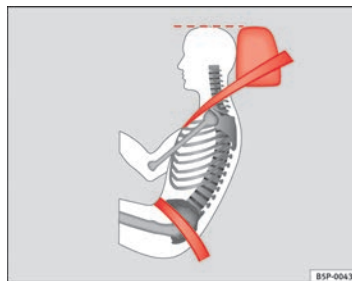

Fig. 14 Correct seat belt and head restraint positions, viewed from side
- The lap part of the seat belt must lie across the pelvis, never across the stomach. The seat belt must lie flat and snugly on the pelvis ⇒ page 25, fig. 14. Pull the belt tight if necessary to take up any slack.